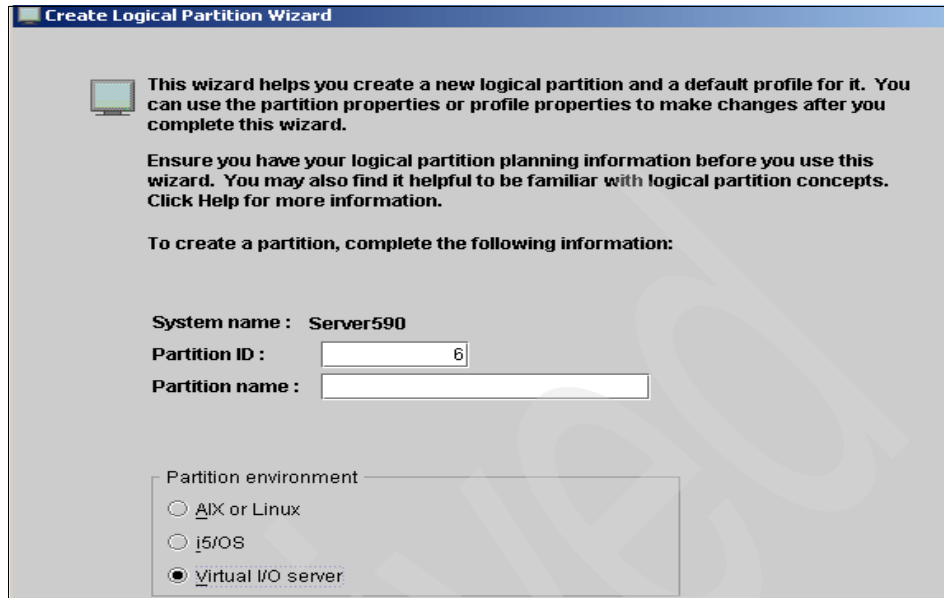

Figure 3-3 The selection for creating a Virtual I/O Server
The most important features to know about virtualization and Micro-Partitioning include the ability to partition a processor and share I/O adapters on a single system. Each system will have its own operating system and act independently. A Virtual I/O Server logical partition needs to be created before other partitions can use virtual I/O because it controls the resources shared between all other LPARs. Figure 3-3 on page 78 shows the creation of a Virtual I/O Server.
3. Select **Logical Partition**. The Create Logical Partition and Profile wizard opens. See Figure 3-3 on page 78 for logical partition creation.